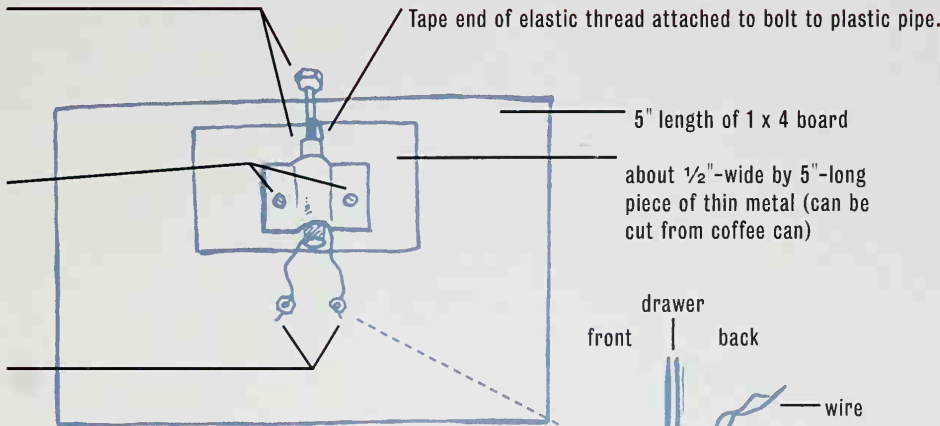

Fig. 2
5. Drill two $\frac{3}{32}$ " holes in a 5" by $1\frac{1}{2}$ " piece of thin metal, as shown in Fig. 2.
Note: Bolt with elastic thread attached is inserted in 1/2" plastic pipe. End of thread is taped to outside of pipe. See Figs. 2 and 4.
8. As shown in Figs. 2 and 4, use two $1\frac{1}{4}$ "-long #8 wood screws to attach the electromagnet latch to the inside of the front of the drawer. Tighten the screws so that the thin metal holds the secret latch firmly to the drawer.
10. Insert two $1\frac{1}{2}$ "-long 8-32 machine screws in these holes. As shown in the inset in Fig. 2, firmly screw on one 8-32 nut to hold each screw and then loosely screw on another nut. Wrap the ends of the wires between the two nuts. Tighten the outside nut.